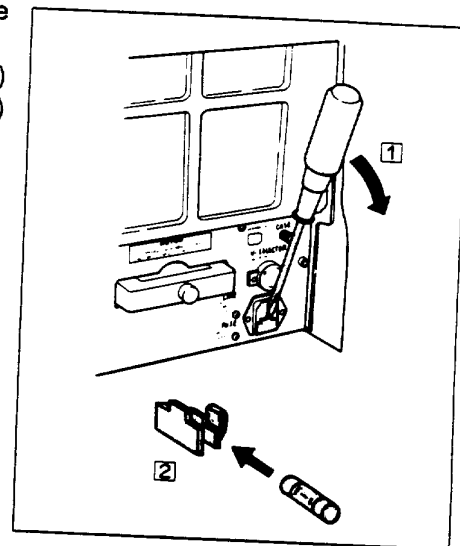

Fig. 10
- ① Turn the power switch OFF, and unplug the power cord.
- ② Remove the fuse holder. (Fig. 10- ①)
- ③ Replace the fuse. (Fig. 10- ②)